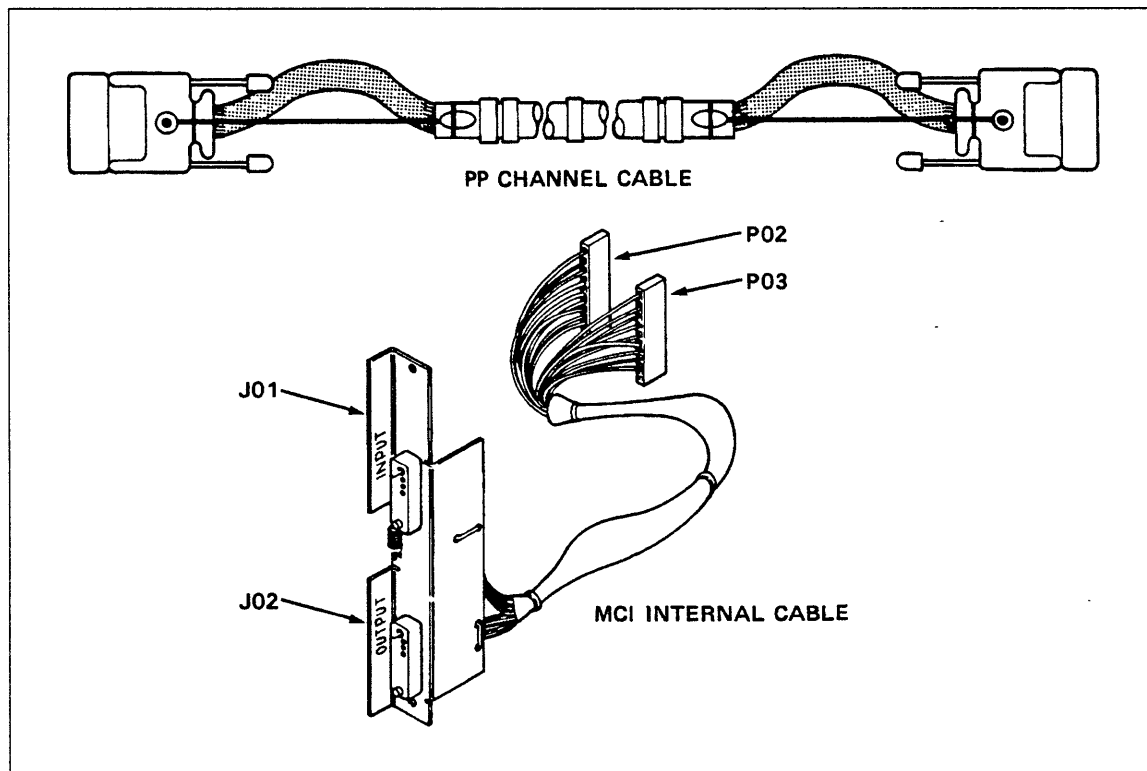
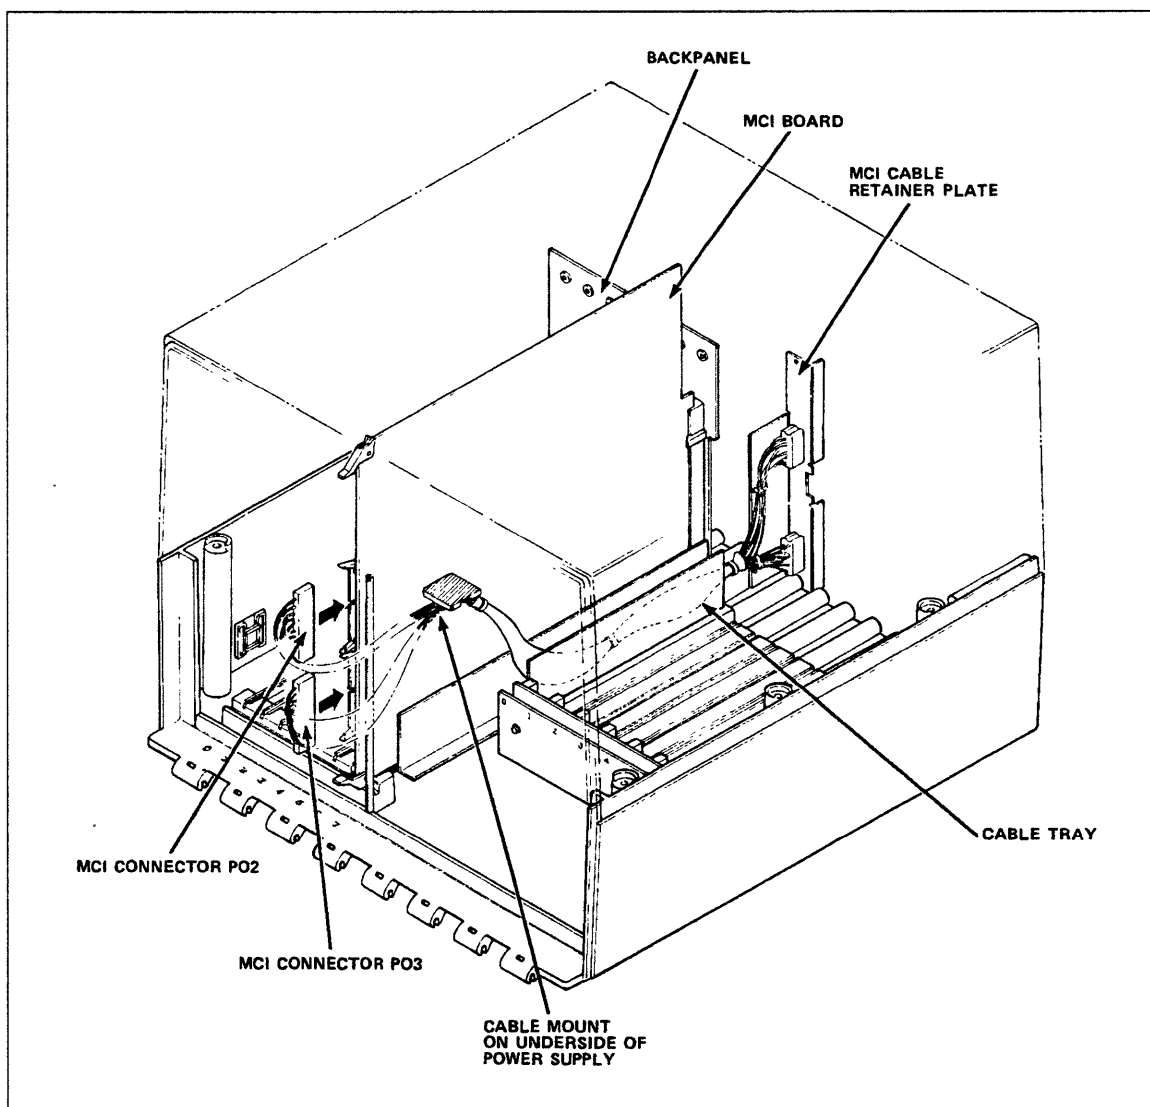

Figure 9-20. MCI Internal Interconnect Cable
Figure 9-21. Replacing MCI Board
3. Disconnect MCI internal interconnect cable connectors (P02 and P03 on figure 9-20) on front of MCI board by rotating upper and lower cams simultaneously (figure 9-21).
4. Remove external peripheral processor channel cables (figure 9-20) from back of MCI cable retainer plate (figure 9-21).
5. Remove two retainer screws from MCI board retainer plate in back of DI (figure 9-21).